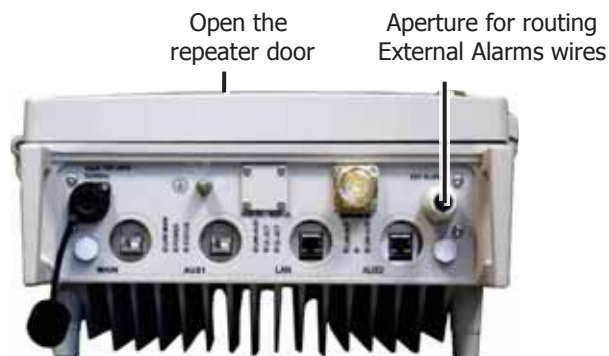

Figure 5-32. Front Panel Example Showing Location of Power Connector
2. Route your alarms cable (not provided) to the inside of the repeater, via the **Ext Alarms** aperture located on the front panel – Figure 5-32.